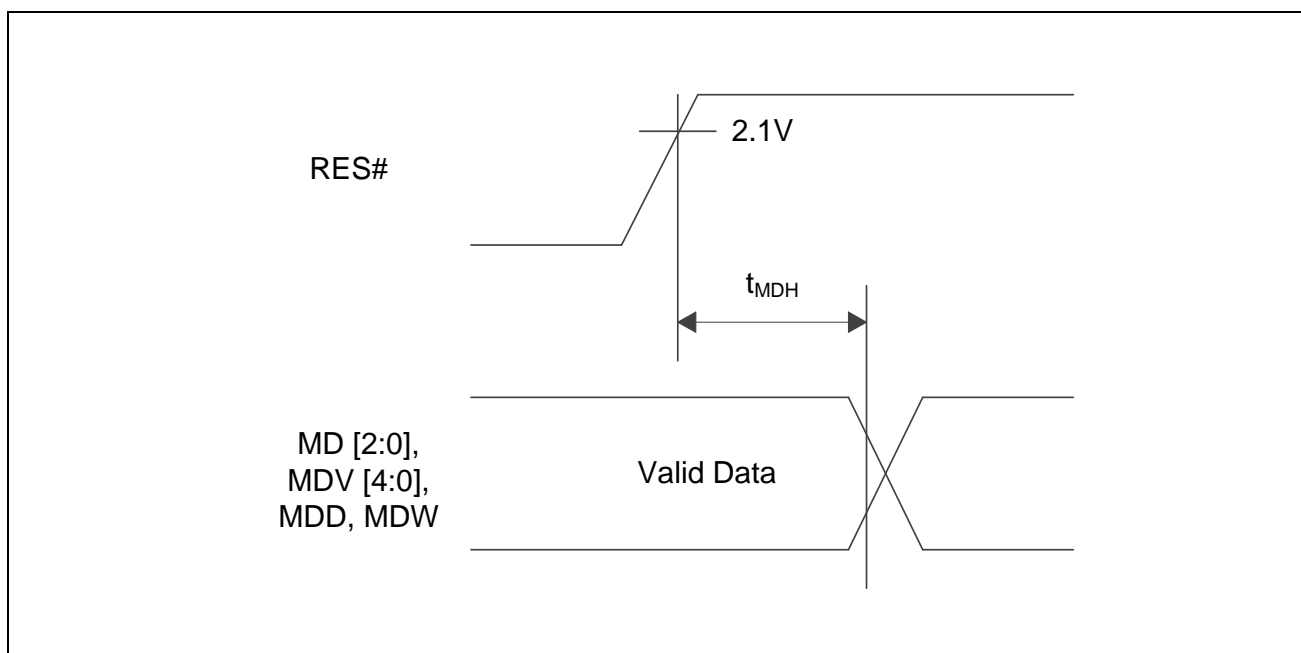

Figure 2.1 Mode input timing
The operating mode pins MDn, MDVn, MDD, and MDW should be mounted such that the hold time of 250 ns is secured after release from the reset (see **Figure 2.1**). Since the mode pins are multiplexed with the peripheral functions of this LSI, care should be taken when mounting them. Especially, when the peripheral functions are for input pins, care is also required for the external signal input.
**Figure 2.1** shows the timing of mode setting voltage input on the MDVn pin.